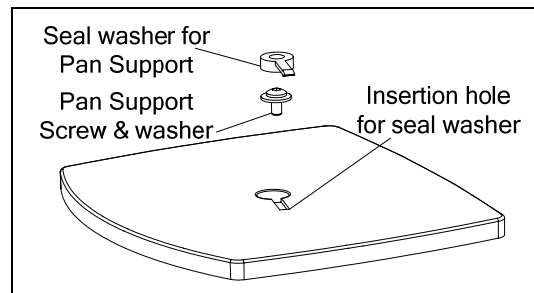

Figure 3-9. Seal washer for Weighing Plate
6. Install the new seal on the Pan Support. Insert it through the hole shown in Figure 3-9.